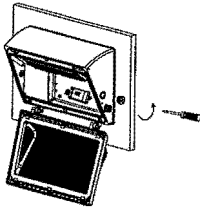

Fig. 13
9. Take off the upper rubber plug on the side. (Fig. 13)